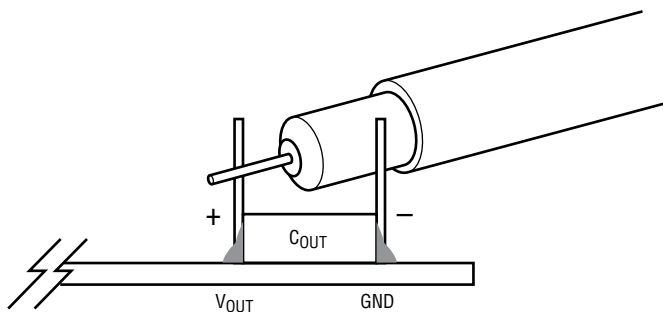

Figure 2. Scope Probe Placement for Measuring Output Ripple Voltage
- Once the input and output voltage are properly established and the fan is turned on, adjust the load current within the operating range of 0A to 360A max. Observe the output voltage regulation, output voltage ripples, switching node waveform, load transient response and other parameters. Refer to Figure 2 for proper output voltage ripples measurement.
NOTE: To measure the input/output voltage ripples properly, do not use the long ground lead on the oscilloscope probe. See Figure 2 for the proper scope probe technique. Short, stiff leads need to be soldered to the (+) and (–) terminals of an input or output capacitor. The probe’s ground ring needs to touch the (–) lead and the probe tip needs to touch the (+) lead.